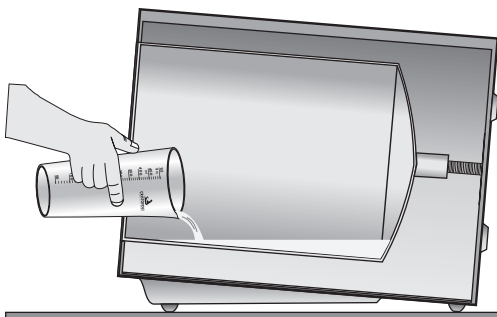

Fig.16
- Open the door of the autoclave and use the measuring cup provided to pour the right amount of **distilled water** directly in the chamber **before** each cycle (Fig.16) according to the table below.